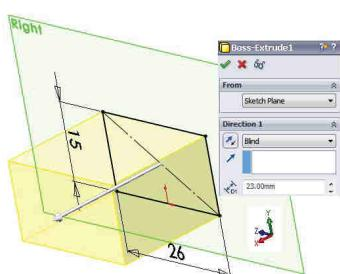

Fig. 2.22
**1 Trasare contur 26x15:** Comanda Sketch – Fig. 2.22 – plan Right.
**2 Extrudare contur 26x15:** comanda Extruded Boss/Base – Fig. 2.22 - Blind /  $\Delta_{D1}$  23 mm distanță /
**1 Sketching of the 26x15 contour:** The Sketch command – Fig. 2.22 – Right plane.
**2 Extrudation of the 26x15 contour:** the Extruded Boss/Base command - Fig. 2.22 – Blind /  $\Delta_{D1}$  23 mm distance /